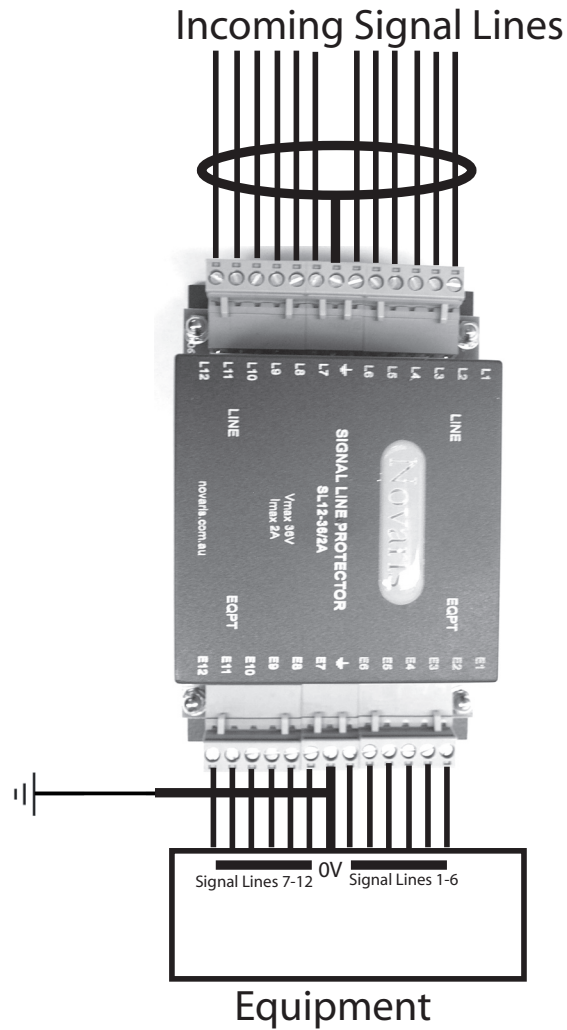

Figure 3: Correct Installation
3.3 Wiring: Signal line protectors are connected in series with the equipment (Figure 3).